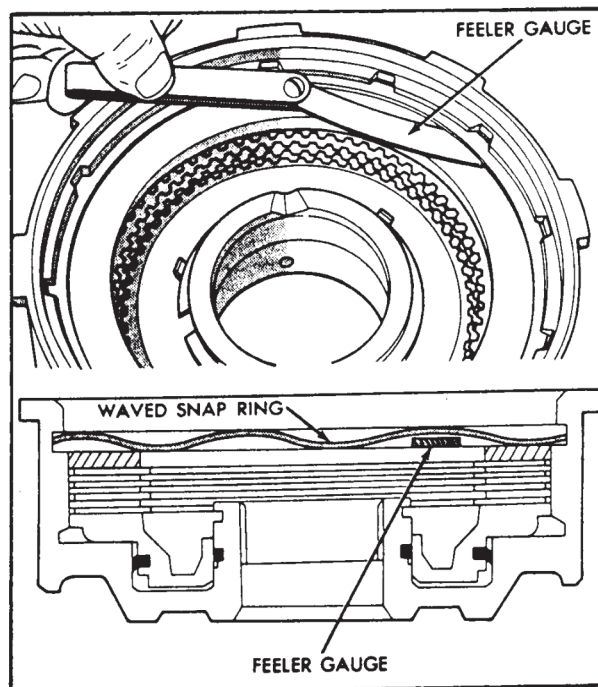

Figure 65
14. After installing pressure plate and the wavy snap ring, check clutch clearance with feeler gage (Figure 65). Clearance should be .060"-.080".